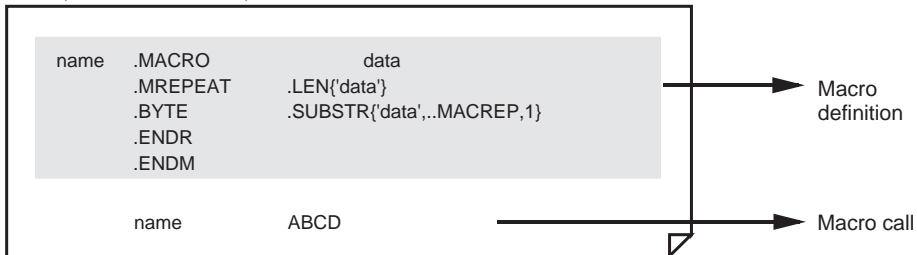

Figure 3.2.9 Example of .INSTR statement
In the example of Figure 3.2.9, the position (7) of character string "se" from the beginning x (top) of a specified character string (japanese) is extracted.